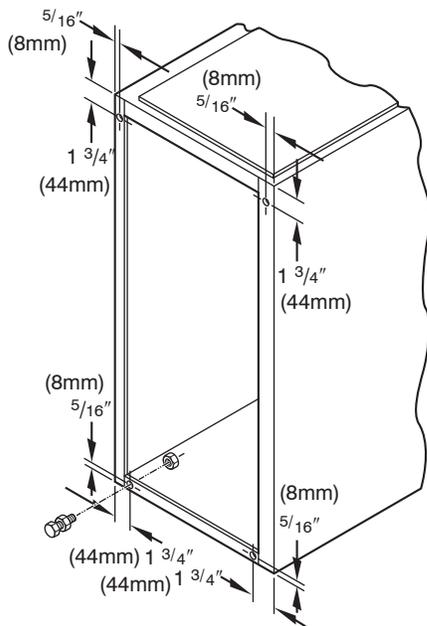

Fig. 10 - Leveling Legs
In upflow position with side return inlet(s), leveling legs may be used. (See Fig. 10.) Install field-supplied, 5/16 X 1-1/2 in. (8 X 38 mm) (max) corrosion-resistant machine bolts, washers and nuts.
1. Position furnace on its back. Locate and drill a hole in each bottom corner of furnace. (See Fig. 10.)